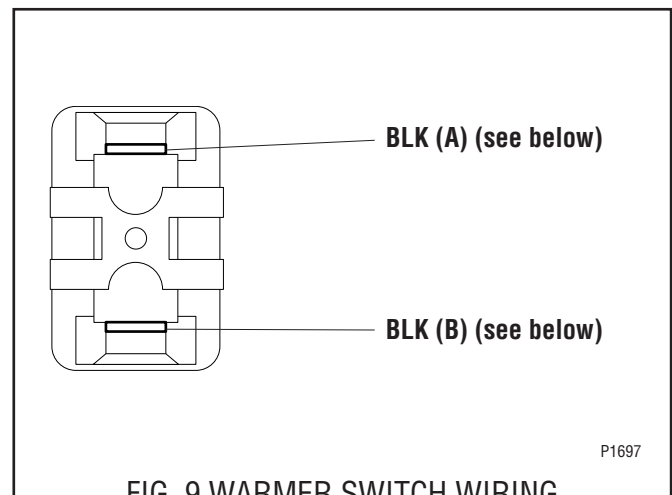

FIG. 9 WARMER SWITCH WIRING
3. Refer to FIG. 9 when reconnecting the wires.